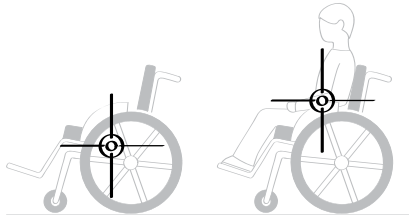

Figure 5.1
- 1 Position the wheelchair as close as possible along side the seat to which you are transferring, with the front casters pointing toward it. (See Figure 5.1) Engage wheel locks. Shift body weight into seat with transfer.